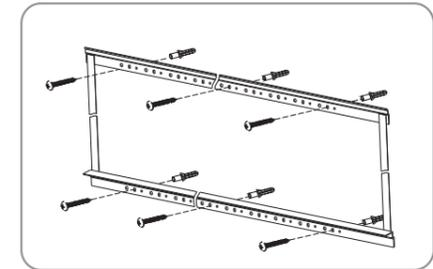

figure 12
- b. Concrete wall installation: drill six proper holes on the concrete wall with electric drill, then fix the top and low bracket on the wall using the $\phi 5 \times 40$ mm tapping screw and then fasten with the anchor (3 screws on each bracket) (figure 12).